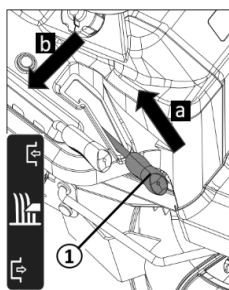

Figure 24
2. Pull the lever (Figure 24 ①) for switching on the mowing mechanism upwards (Figure 24 a) and engage it (Figure 24 b). The mowing mechanism is now running.